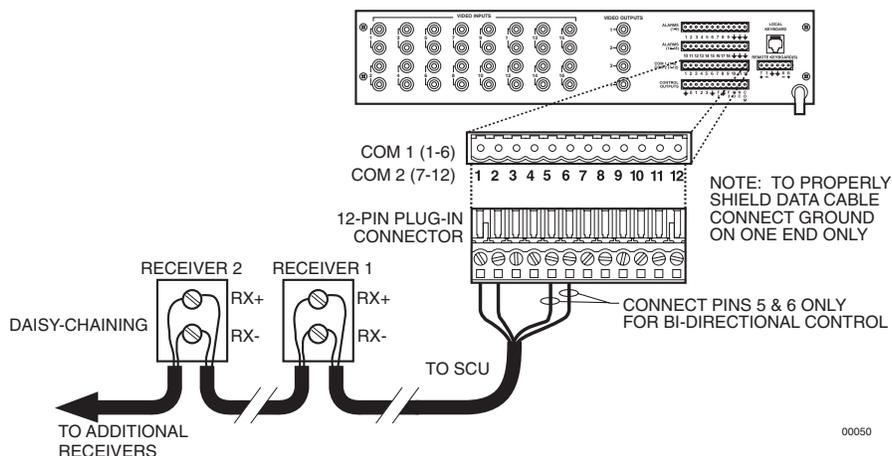

Figure 11. Daisy-Chaining Receivers
- a. Daisy-chaining (going from one receiver to another) is recommended (refer to Figure 11) but not always possible.